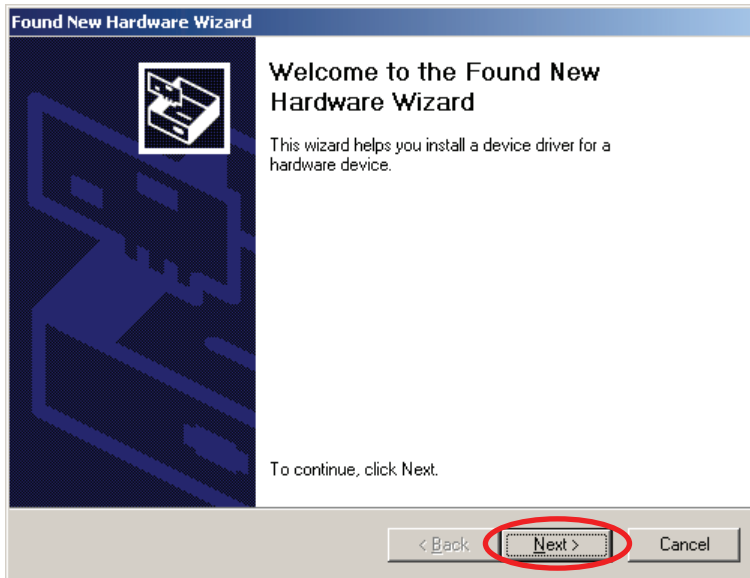

Fig. 2.5: Windows 2000 driver installation - step 1
The installation dialog will then appear on the screen (see Fig. 2.5).
- ➡ Click on "Next" to confirm this dialog (see Fig. 2.5).